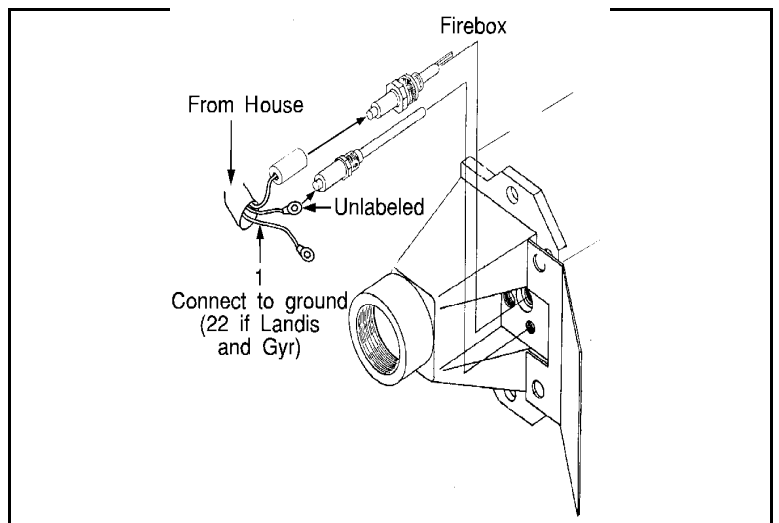

FIGURE 7 (MSIN0108AE)
2. Make fire box connections (located in the Firebox) as shown in FIGURE 7.